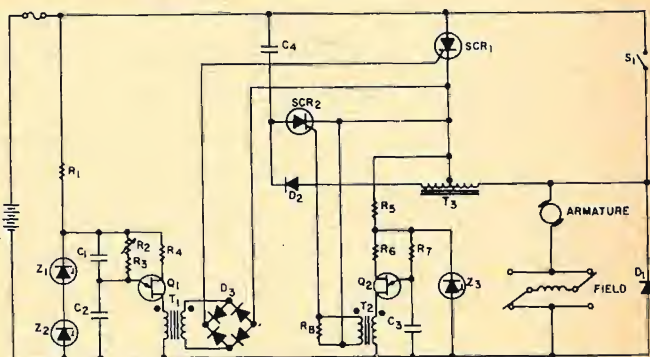

Fig. 2. SCR chopper circuit used for controlling a variety of battery-operated, d.c.-motor-driven electric vehicles.
Fig. 2. (A) Headlight-on reminder buzzes when ignition is off and lights are on. (B) Headlight time delay automatically turns headlights off after a 60-90 second delay.
The advantage of latching-type operation, where a small momentary signal turns the device on, is offset to some extent by the difficulties in turning the SCR off when it operates from a d.c. source. To turn the SCR off it is necessary for the load current to be interrupted momentarily. The complete circuit for such an operation is shown in Fig. 2—actually an overgrown power flip-flop.
The control potentiometer (not shown) is connected to the accelerator pedal. Bypass switch S1 (Fig. 2) is usually energized at the end of accelerator travel, providing direct drive from battery to motor for maximum speed.